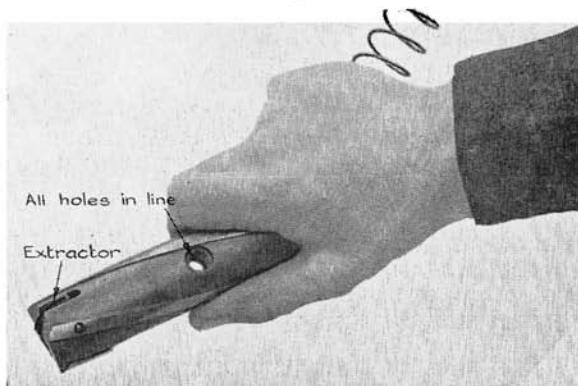

Fig 7.—Putting back the breech block and return springs.
- (d) Push the cocking handle through the holes, with the point of the curved piece to the front. Stop pressing the cap forward, and see that the flange on the cocking handle goes through the casing and is flush with the breech block (see Fig 7).